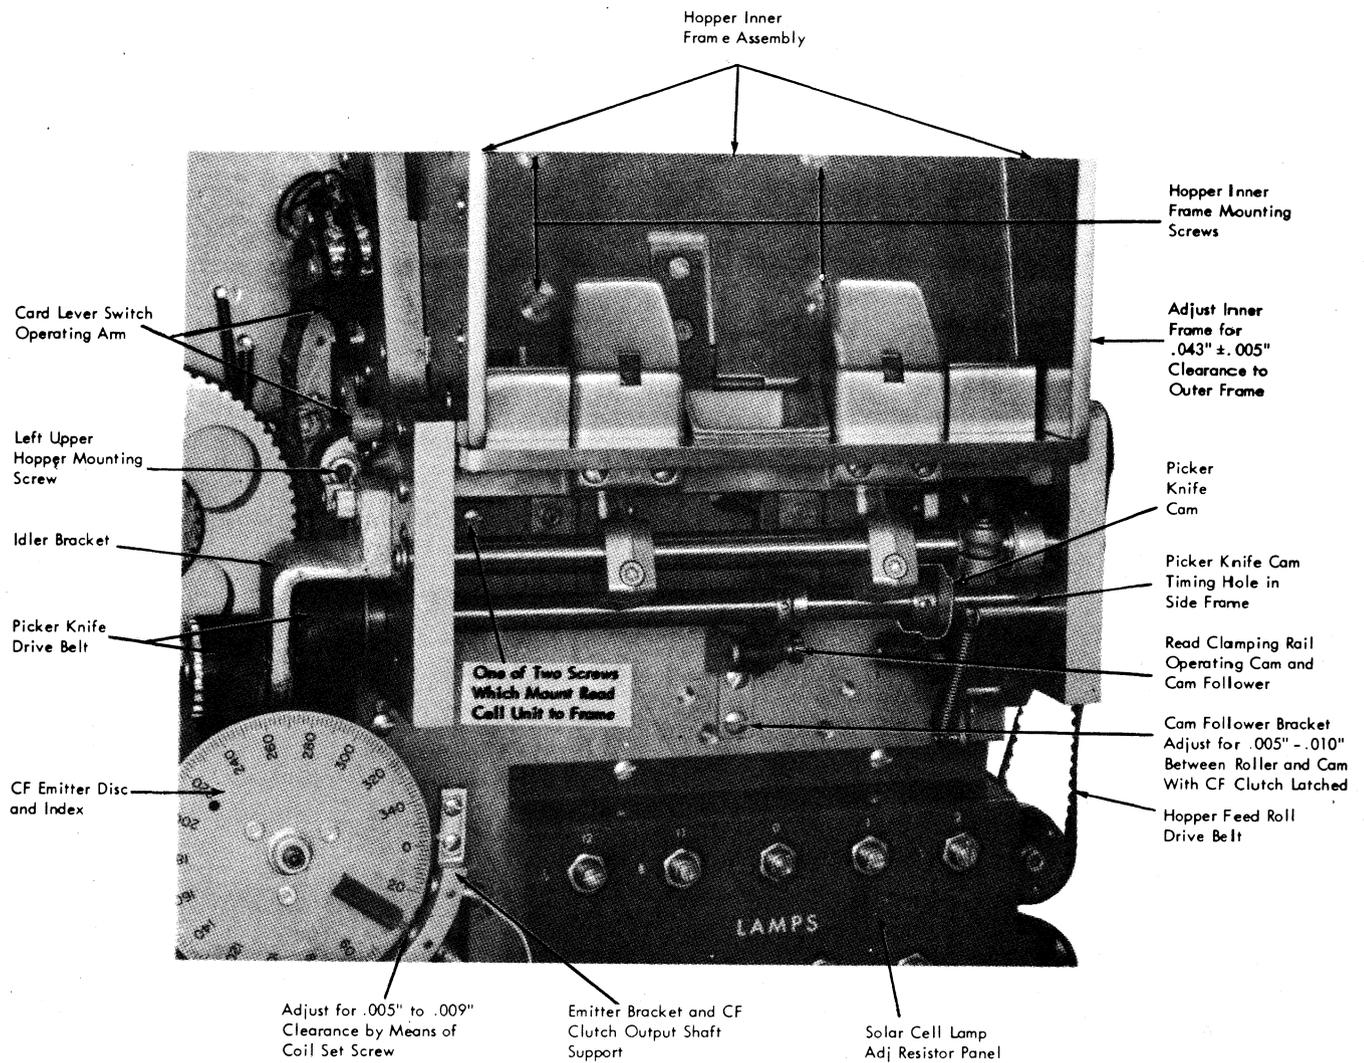

Figure 4-6. Hopper and Pickerknife Camshaft
2. Step 2 is for machines with belt driven pickerknives (see note following Drive Mechanism and Rear Casting Assembly). Remove pickerknife idler bracket from left hopper side frame. (See Figure 4-6.)
1. Latch clutch. Loosen CF clutch index disk on front of CF clutch output shaft. Rotate pickerknife camshaft until pickerknife cam timing hole is aligned to timing hole in hopper side casting (Figure 4-6). Place timing pin through aligned holes.
- a. $.043'' \pm .005''$ lateral spacing between hopper inner frame and outer frame. See Figure 4-6.
3. With card feed clutch latched, adjust clamping rail cam follower bracket for .005" to .010" clearance between cam follower and cam (Figure 4-6).